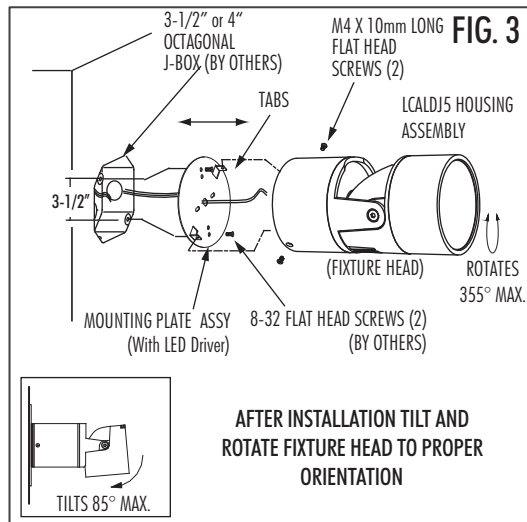

FIG. 3 FIXTURE INSTALLATION (WALL MOUNT ONLY)
6. Align the two (2) tabs on the Mounting plate to the slots in the top of the Housing Assembly (FIG. 3).